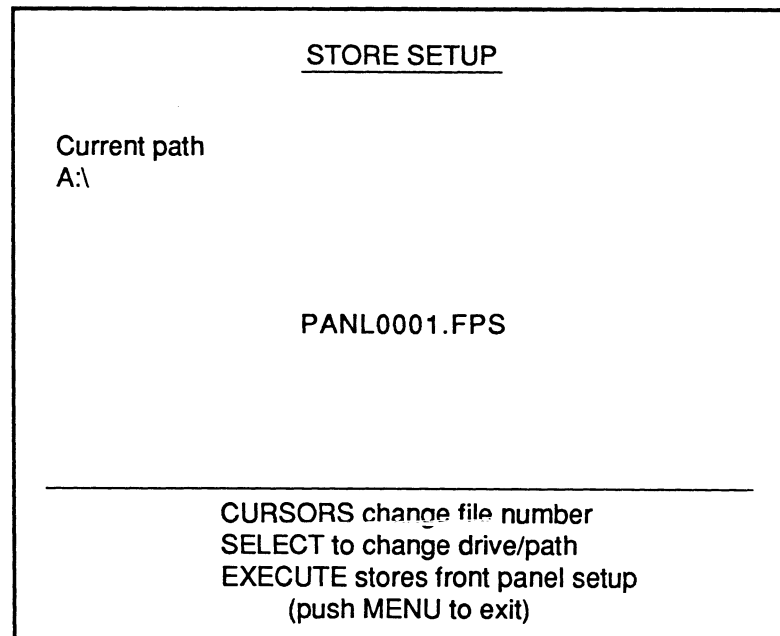

Figure 2 - Store Setup Screen
1. Execute RECALL SETUP. The Recall Settings screen appears (Figure 2).